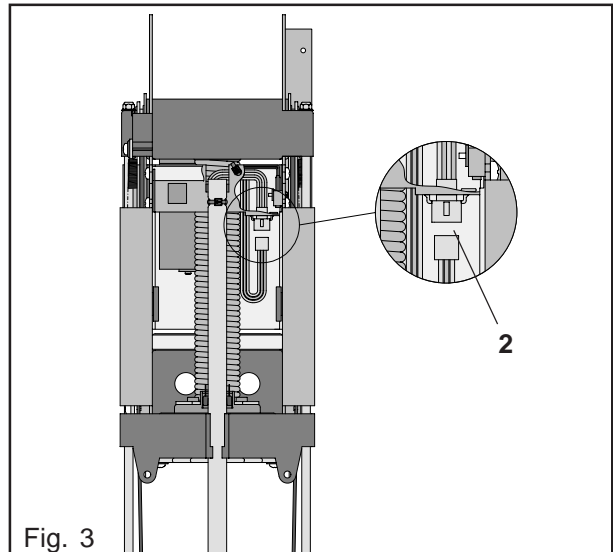

Fig. 3
- Disconnect the plug connection (2) of the actuator motor on the connection console. (Fig. 3)